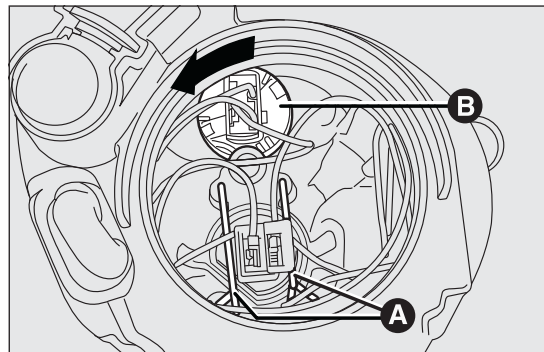

fig. 114
- ☐ release the two bulb holding clips A fig. 114;
- ☐ turn the bulb holder B fig. 114 anticlockwise and remove it;